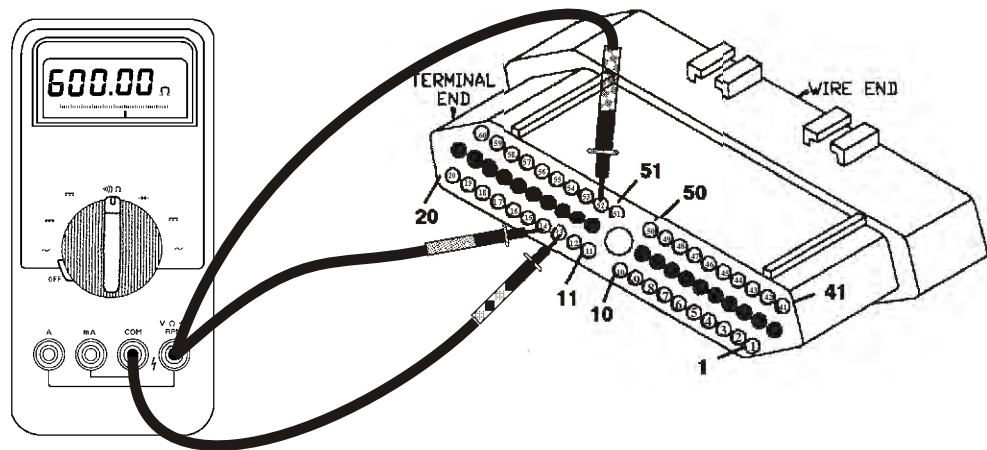

Figure 60
- With the ignition off, unplug the TCM. With an ohm meter, place the negative lead to terminal 13. With the positive lead, the turbine shaft RPM sensor's resistance can be measured by placing the lead onto terminal 52. The output shaft RPM can be measured by placing the positive meter lead to terminal 14. Both RPM sensor should measure between 500 to 600 ohms (See Figure 60).